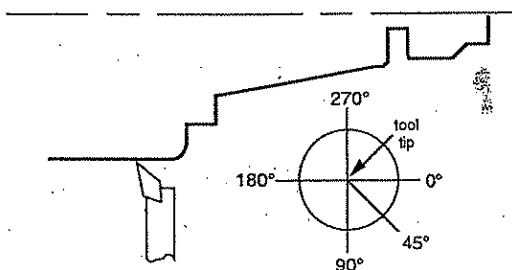

Figure 7-23
**WITHDRAW ANG** The **WITHDRAW ANGLE** is the angle at which the tool is retracted from the part at the end of each cutting pass. See Figures 7-23 and 7-24.